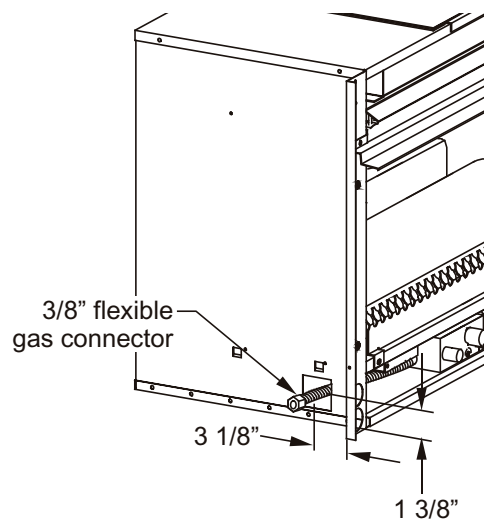

Figure 2. Gas line location.
- The appliance has a gas access hole on the left hand side, and it is supplied with a flexible gas connector on the left hand side of the insert (See figure 2). A 1/2" gas supply pipe must be brought near this connection before installing the hotshot insert.
The gas line must be installed before finishing the Hotshot fireplace insert. For ease of installation, this appliance is equipped with an approved flexible gas connector. The connector is factory-installed and can be connected to the gas line as shown in figure 2.